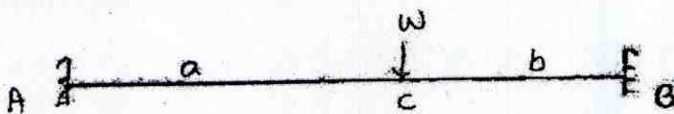

Fig. 2
1. Determine the support reactions of the continuous beam ABC as shown in Fig. 2 using area moment method.